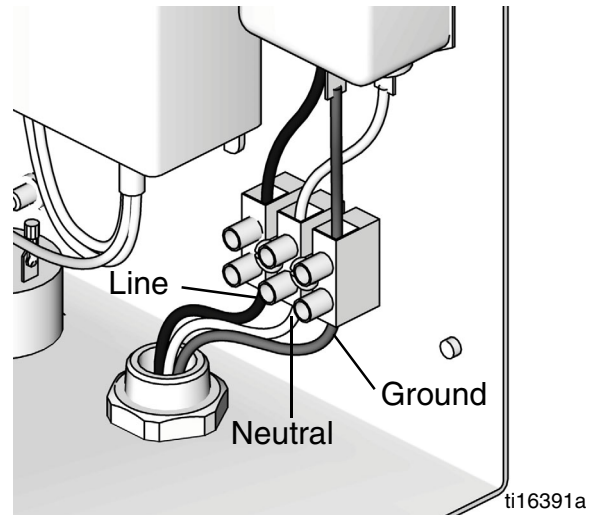

FIG. 6. Control Box Electrical Connection
2. Connect electrical cord to the terminal block as shown in FIG. 6.